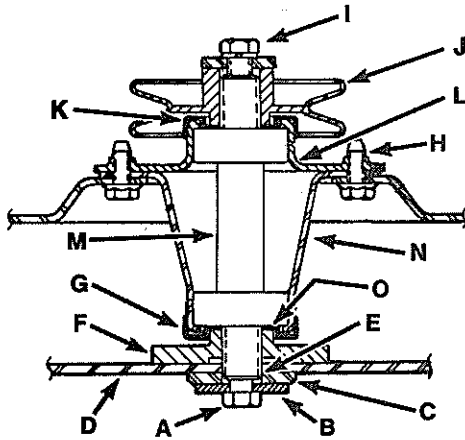

Figure 6-11
13. SPINDLE ASSEMBLIES: MODELS 30036S, 31036S, 14003 & 14004. Figure 6-11
- Remove center bolt (A, Figure 6-11) and washers (B) and (C).
- Remove blade (D) and blade collar (E).
- Slide off blade adapter (F), shield (G) and spacer (O).
- Remove mounting screws (H) and pull spindle assembly up through mower base hole.
- Disassemble sheave (J) by removing bolt (I), lock washer and flat washer.
- Remove shield (K).
- Remove top housing (L) & spindle shaft (M).
- Place bearings on spindle shaft and install into lower housing (N).